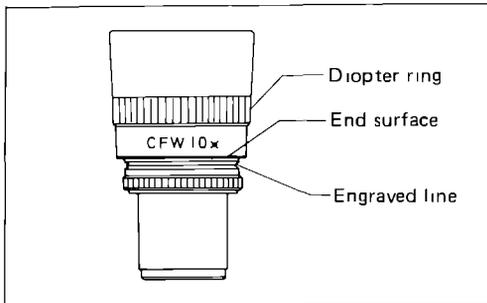

Fig. 5
- (1) Turn the diopter ring on each eyepiece, until the end surface of the milled ring coincides with the engraved line, as shown in Fig. 5